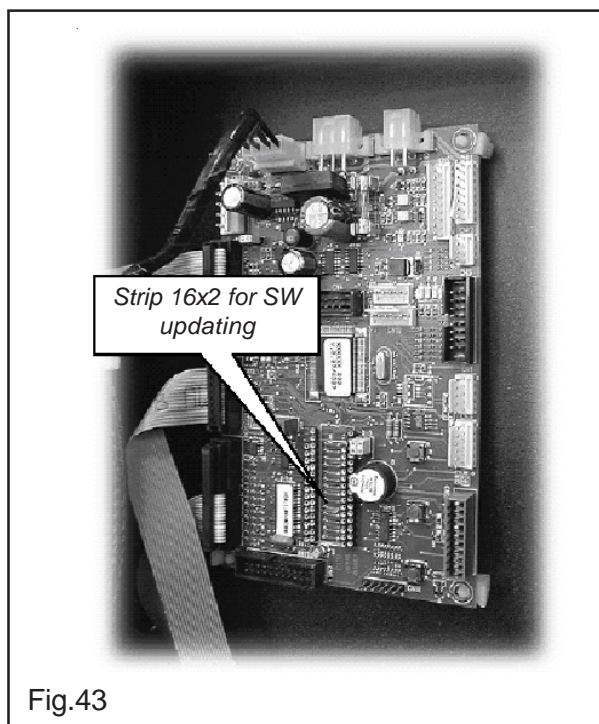

Fig.43
- insert the external memory on a strip of 16x2 (fig.43) with the section showing PIN 1 turned upwards. Make sure the memory pins are all fully fitted, so that it perfectly fits the strip 16x2.